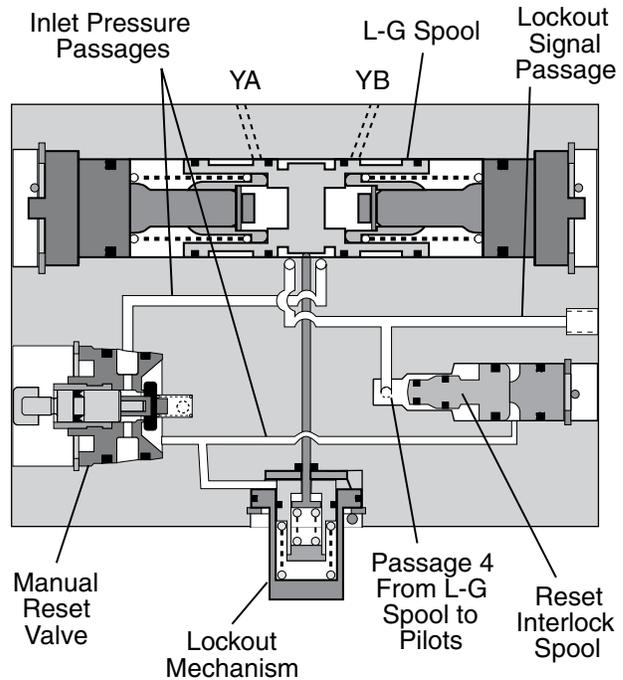
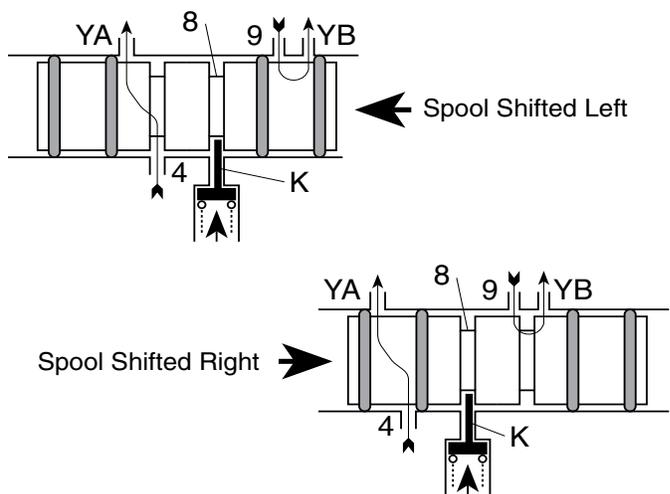

Figure 4 — Horizontal Cross Section of L-G Monitor
Figure 5 — Lockout Positions of L-G Spool
Refer also to the schematic diagram of pilot air flow given in Figure 5.
At the same time, a monitoring air signal goes via passage 6 to the right end of spool C, but no signal goes to the left end. When the difference in pressure at the ends of the spool exceeds 1.5 bar (20 psi) the spool is shifted. In this case the spool is shifted to the left as shown in Figure 5. The spring-loaded lockout pin K drops into lockout groove 8 so that the spool is held in its shifted position. Pilot supply air in passage 4 is then diverted around the spool and out to atmosphere via bleed vent YA. Simultaneously, air in the pilot supply passage 9 is vented to atmosphere via bleed vent YB. (Vents YA and YB are located on the back of the monitor housing as shown in Figure 9.) This exhausting of pilot air removes pressure from piston J making it possible for valve element A to return to its deactuated position. Note that these same conditions occur if valve element B is the open valve element and the L-G spool is shifted to the right. See Figure 5.
Regardless of the type of reset, applying the reset pressure produces two results: (1) lockout pin K (see Figure 5) is lifted out of the lockout groove so that the centering springs M can return the spool to its center position; and (2) the reset interlock spool (see Figures 4 and 8) is shifted so that the pilot air supply passage is blocked and remains blocked during the resetting process. In this way the valve is kept inoperative while resetting air pressure is applied and any attempt to circumvent the function of the L-G monitor is hindered. *However, to ensure that the equipment controlled by the valve does not begin operating immediately after resetting the monitor, electrical power to the valve solenoids must be off.* Otherwise, the energized solenoids would actuate the valve as soon as the reset pressure signal is removed.